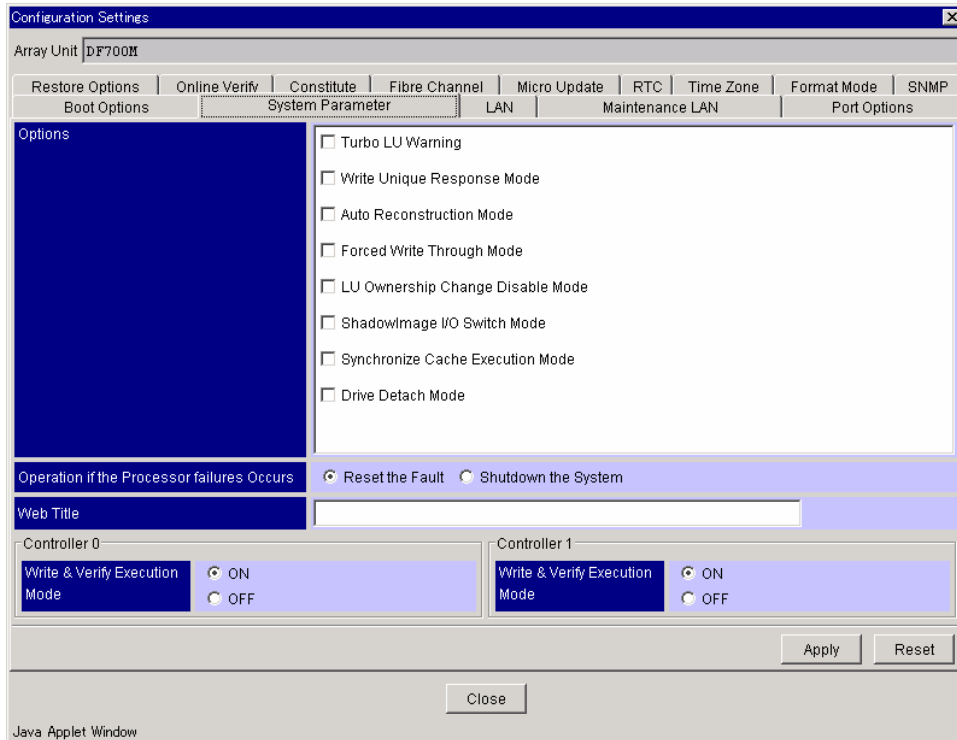

Figure 9.6 Configuration Settings - System Parameter
2. Click the **System Parameter** tab .See Figure 9.6.